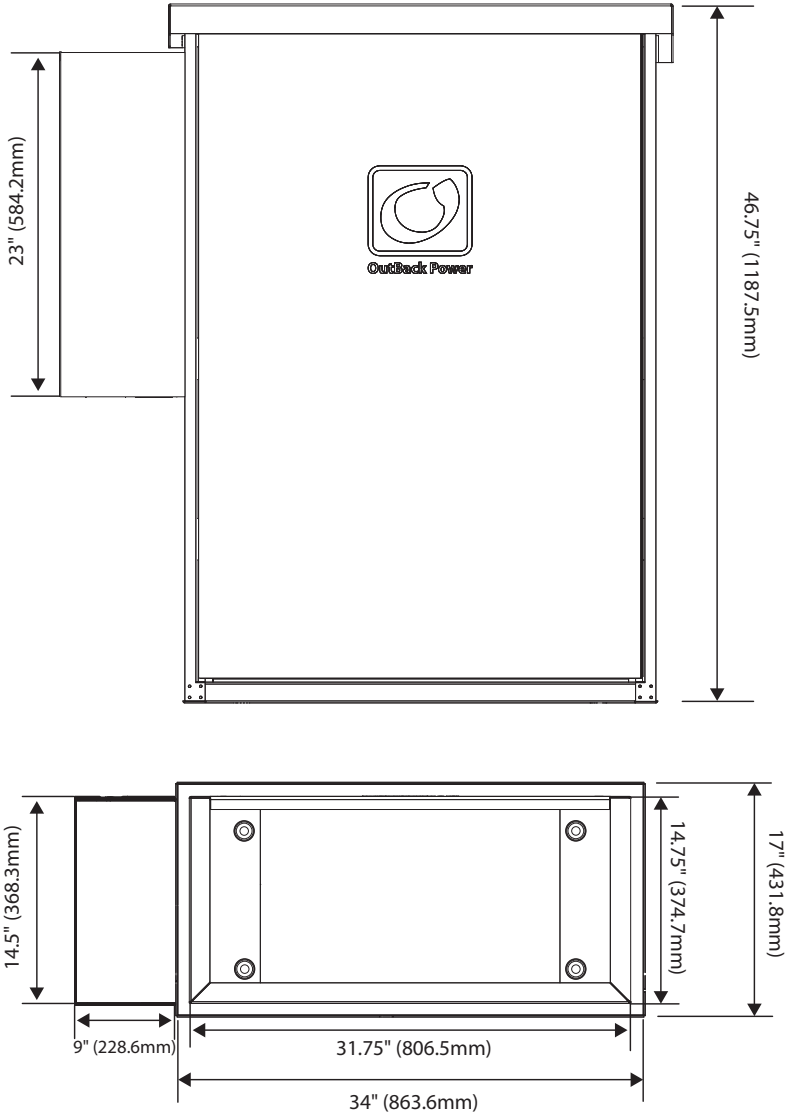

Figure 1, OBE-3 Dimensions
1. Measure and mark the mounting locations from the anchor holes on the bottom of the unit (see Fig. 1 and Fig. 2). Ensure that there are at least 4" between the wall and the nearest mounting hole.